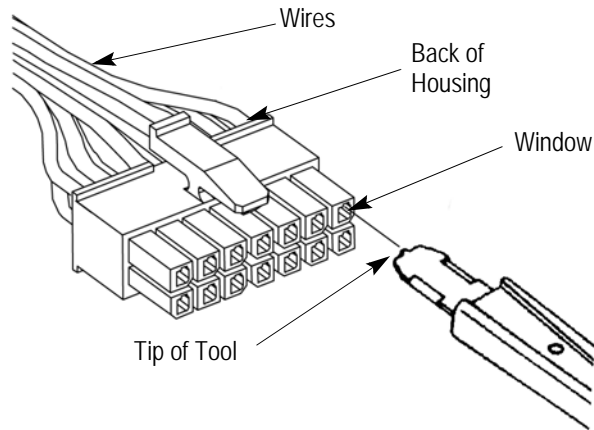

Figure 2
3. USING THE TOOL (See Figure 2)